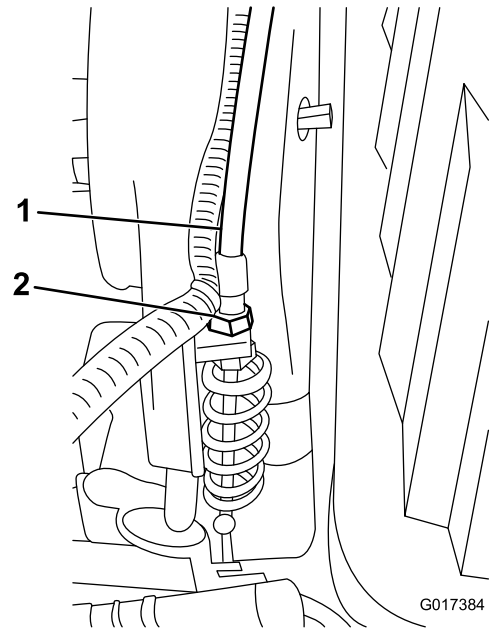

Figure 46
3. At the transmission bulkhead, adjust the reel control cable (Figure 46), to attain a spring length of 70.6-72.4 mm (2.78-2.85 inches).